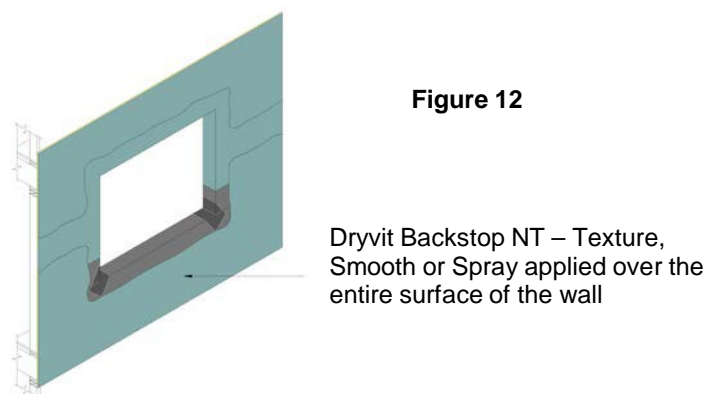

Figure 12
- 4) Install the specified component (i.e. window, etc.) and associated flashings per manufacturer's directions and contract documents. Then apply Backstop NT – Texture or Smooth to the remainder of the wall surface as described in Section VI and lap over the previously installed material (do not lap over Flashing Tape if specified) around openings – Figure 12.